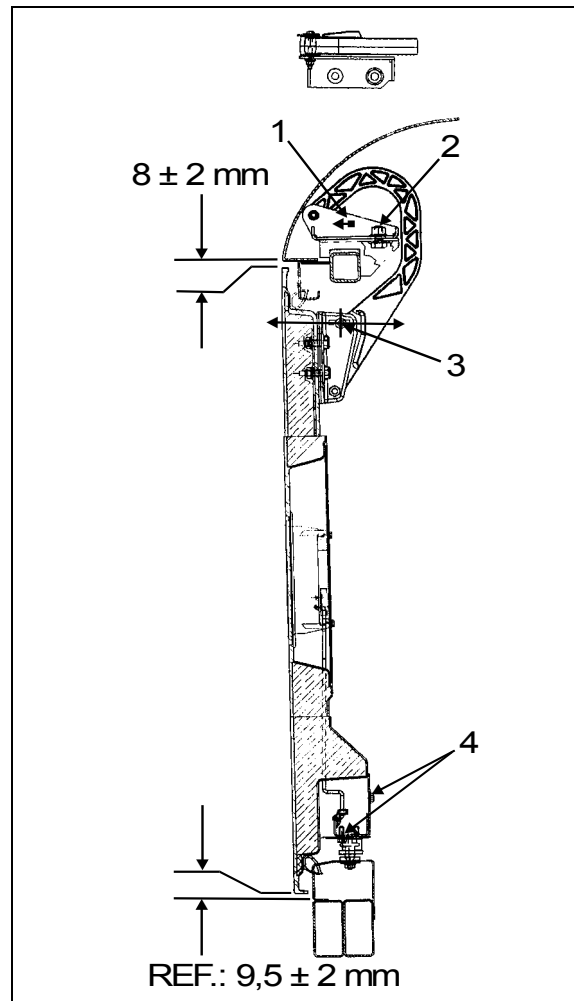

FIGURE 58: DOOR HINGE
2. Loosen nut (2, Fig. 58).
3. Move part (1, Fig. 58), as close as possible to exterior of coach, so as to have enough clearance for proper door opening.
4. Tighten nut (2, Fig. 58).
5. Loosen nut (3, Fig. 58). Hinge allows the door to be shifted "IN or OUT".
6. Adjust door panel to have the same gap space as neighboring panels or refer to figure 41 for specified gap space. Only if necessary, use the adjustment allowed by moving part 1, Fig. 58.